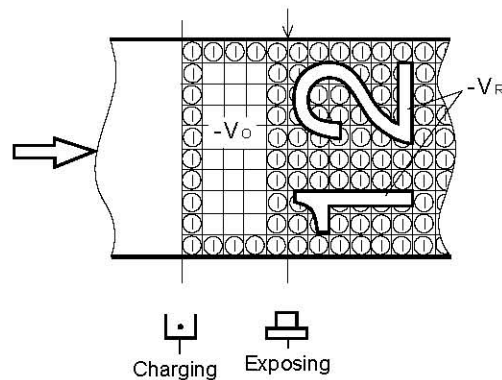

Fig. 4-13
- (2) Process of exposing (Refer to Fig.4-13.)
- v) An invisible electrostatic latent image is formed on the OPC belt as shown in Fig. 4-13.